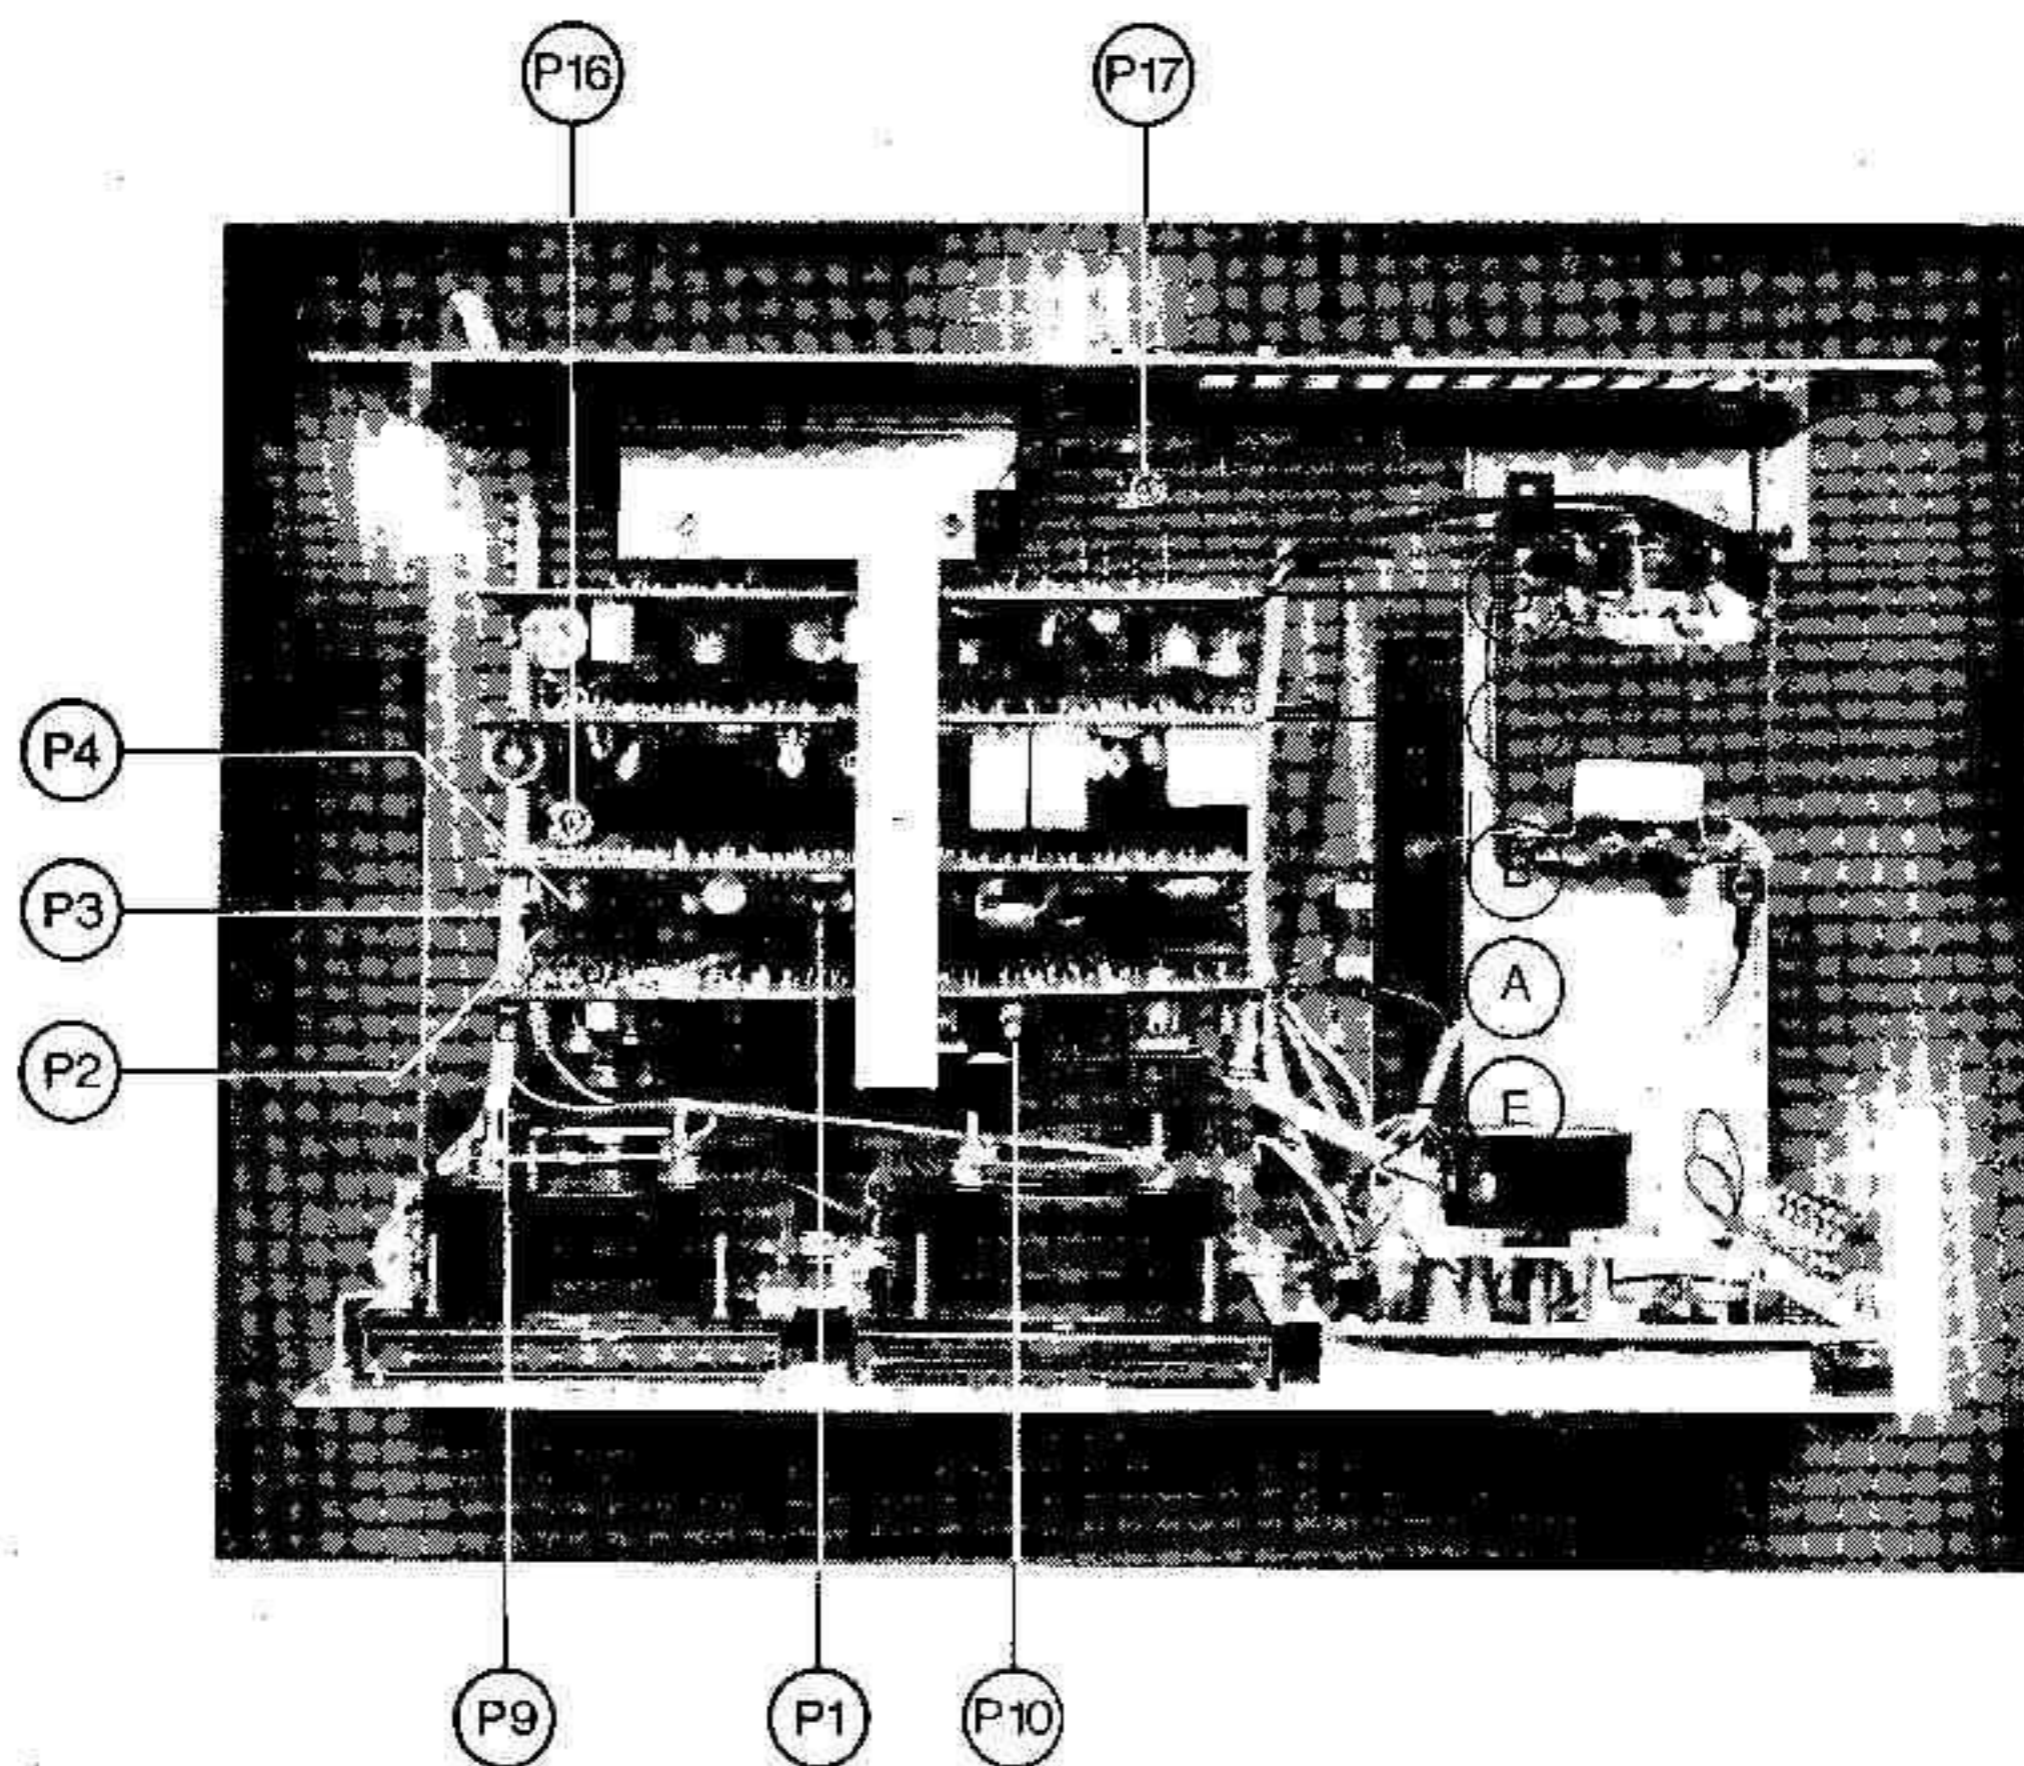

Fig. 9. Adjustment.
5. Check the +17 V potential in the power supply and if necessary adjust with potentiometer P10 on circuit board A (see Fig. 9). Check  $\pm 17$  V potential.
6. Connect a frequency counter to the 3.15 kHz output (11), and with potentiometer P9 on circuit board A adjust the oscillator frequency to exact value of 3.15 kHz.
7. Short-circuit the centre pin of the drift potentiometer (4) to chassis potential and adjust the deflection of the drift meter (3) to 0 with potentiometer P1 on circuit board B.
8. Remove short-circuit. Set drift potentiometer (4) to 0. When switching between the 0.3% and 10% ranges (1) the drift meter (3) should show a constant reading of 0. This reading is adjusted in the 0.3% range with the FINE potentiometer (2) and in the 10% range with potentiometer P2 on circuit board B.
9. Set the drift range switch (1) to 0.3% position. Adjust drift meter (3) reading to 0 using drift potentiometer (4) and, if necessary, FINE potentiometer (2). Thereafter set the range switch (1) to 10% position.
10. Connect an audio generator to one of the inputs, say (12), and adjust frequency to exactly 3.465 (3.15 kHz + 10%), checking with a frequency counter.